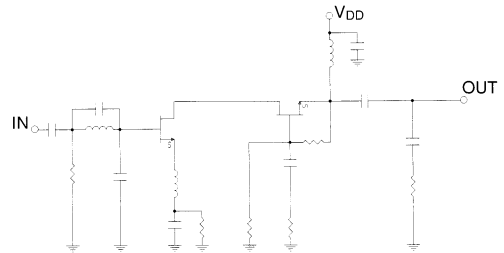
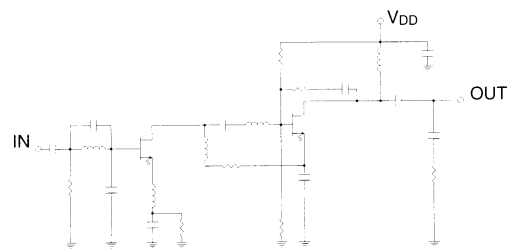

Figure 3. Low Gain MMIC LNA Schematic
Figure 4. High Gain MMIC LNA Schematic
In this product platform there are essentially two circuit design types, a low gain (LG) and a high gain (HG). The LG design (MAAM12022, MAAM12032, MAAM22010, and AM50-0001), shown in Figure 3, employs a single stage cascode configuration with series feedback to simultaneously achieve impedance match and minimum noise figure. The HG design (MAAM12021 and MAAM12031), shown in Figure 4, uses two cascaded common source stages biased in series to achieve the high gain at low current consumption, and also employs series feedback to simultaneously achieve impedance match and minimum noise figure. The AM50-0002 employs a combination of the LG and HG designs to create a three stage, higher gain, LNA. The AM50-0002, however, uses a simple external input matching network to obtain minimum noise figure. A detailed discussion of this external matching network is contained in the section on customer use considerations.